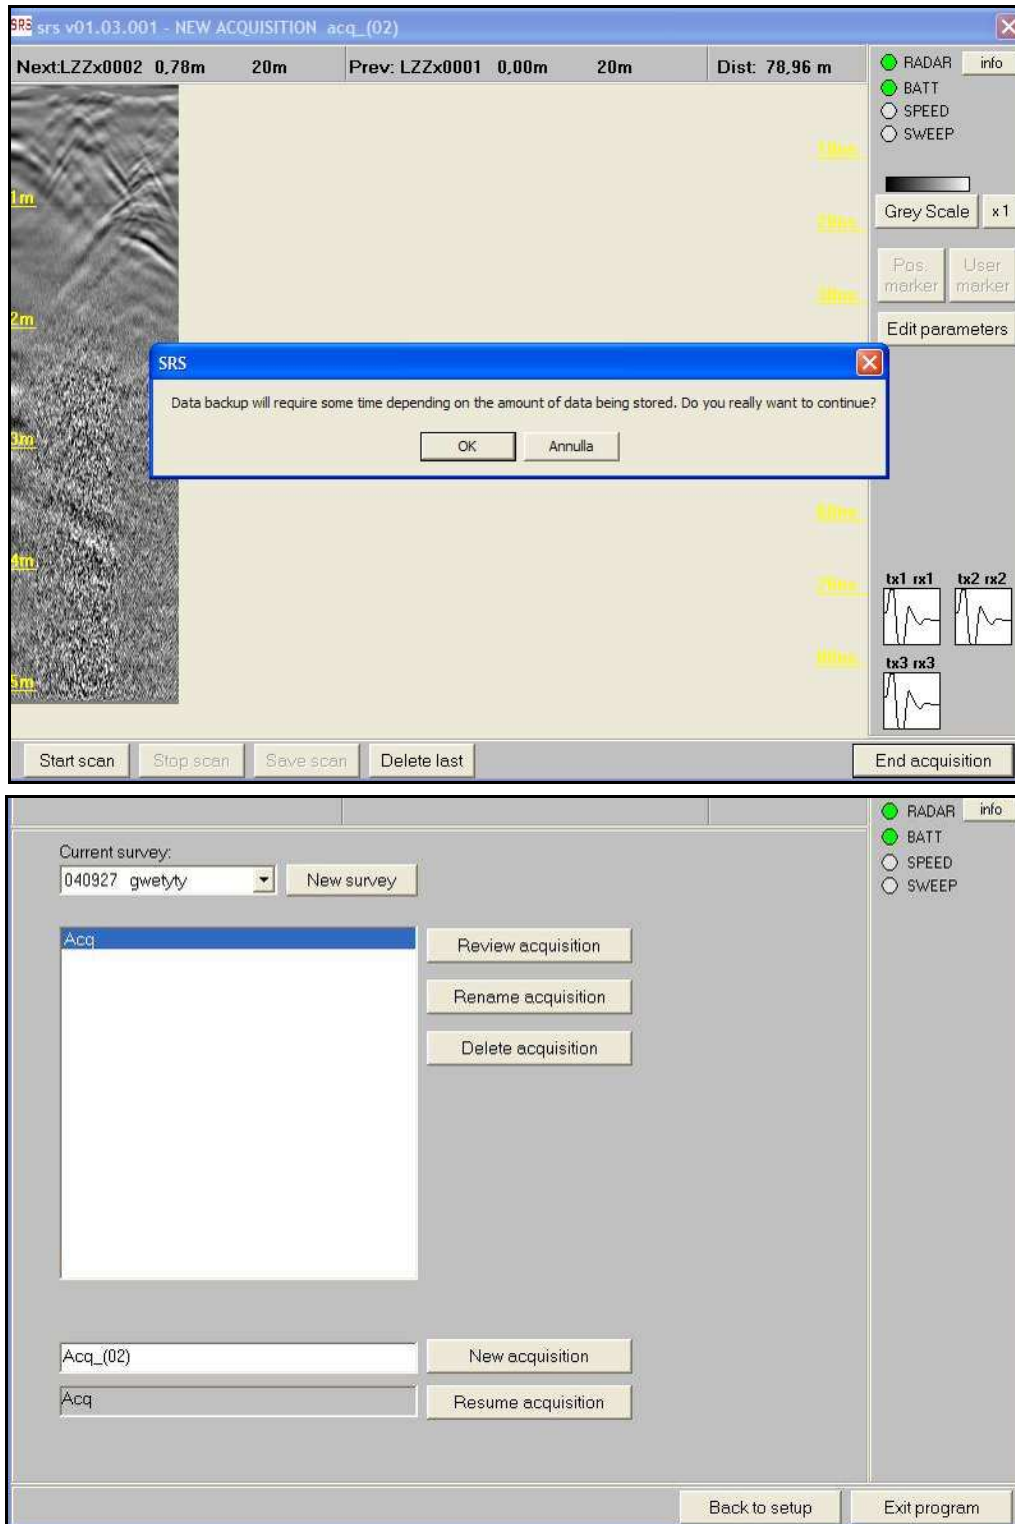

Fig. 4-33 – Acquisition window activated for performing operations in review mode
8. Pressing the  button terminates the acquisition phase, then the software will save definitely all data storage of the same mission by pressing the OK button in the window appearing (see upper Fig. 4-33); then you move on to the window shown in Fig. 4-33 which has all the review functions activated.
You can perform various operations on the acquired data. Once the acquisition has been selected from the window shown in Fig. 4-33 (in the example shown here in Fig. 4-33, the **Acq** acquisition is chosen) you can:
1. Press the  button shown in Fig. 4-33 to view the selected acquisition.
button in the window shown in Fig. 4-33.
button in the window shown in Fig. 4-33 using
button from the window shown in Fig. 4-33 reloads the last acquisition, enabling you to continue performing other scans in the same acquisition area, following the procedure described in Par.4.6.